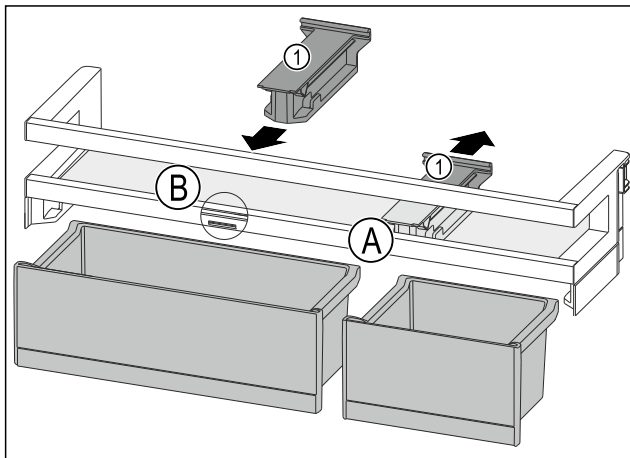

Fig. 162
- ▶ Take off the holding part Fig. 162 (1) in position Fig. 162 (A) backwards.
- ▶ Insert the holding part Fig. 162 (1) in position Fig. 162 (B).